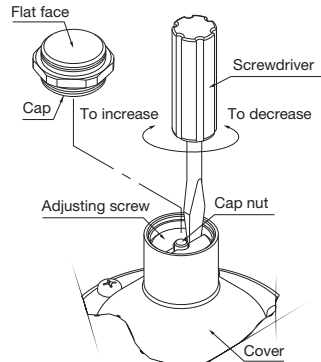

Fig. 2
2. Remove the cap. By checking the pressure gauge, turn the adjusting screw to adjust the reduced pressure to a desired level. (Fig.2).